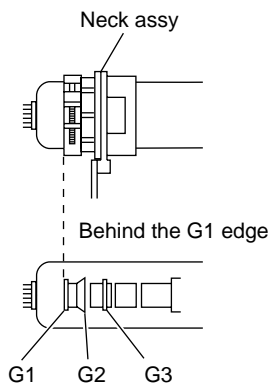

Fig. 4-1
1. Position neck assy as shown in Fig4-1.